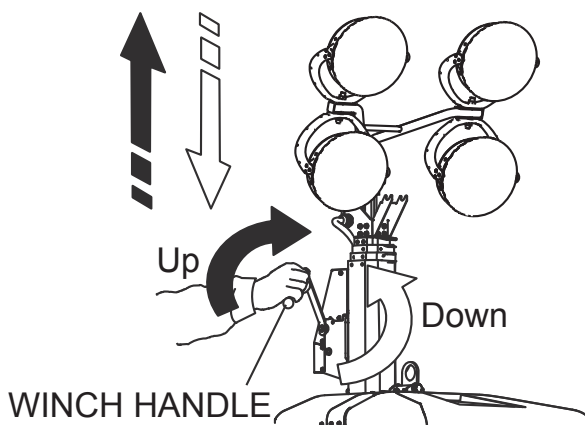

Figure 18. Extending the Mast
2. Turn the mast winch clockwise to raise the mast and observe that the mast begins to extend upwards (Figure 18).